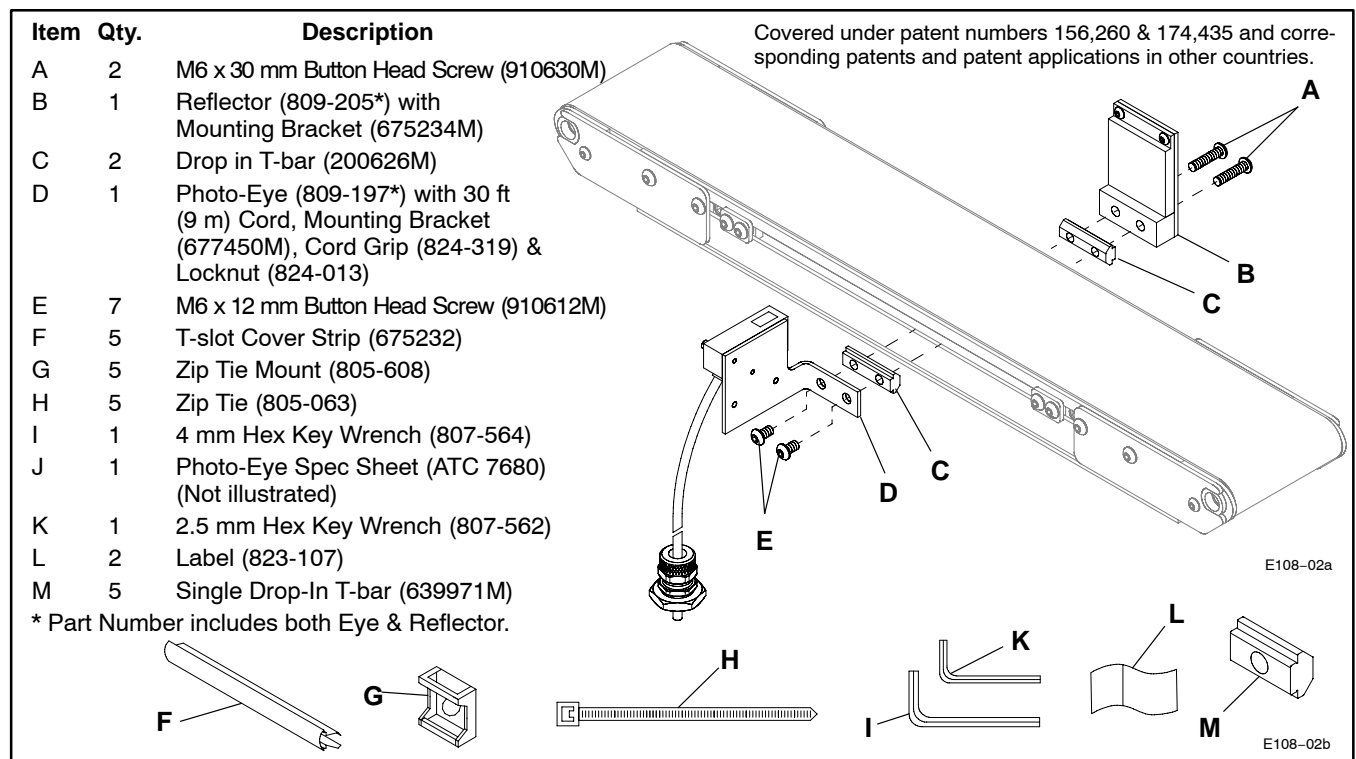

Figure 2: Photo-Eye Kit (75-30) Components
2. Refer to Figure 2 and select the desired location and mount the Photo-Eye and Reflector.